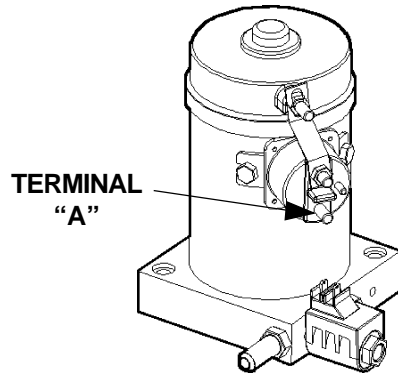

FIG. 1
1. Verify that power is being supplied to the Solenoid Terminal "A" (Ref. FIG. 1). Recharge the battery if less than 12 volts.